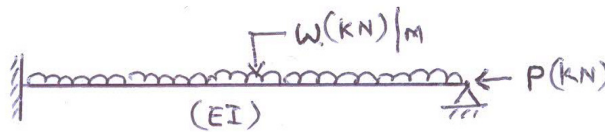

Figure 1
3. (a) Develop the global stiffness matrix and load vector of the truss shown in the figure 1. 6